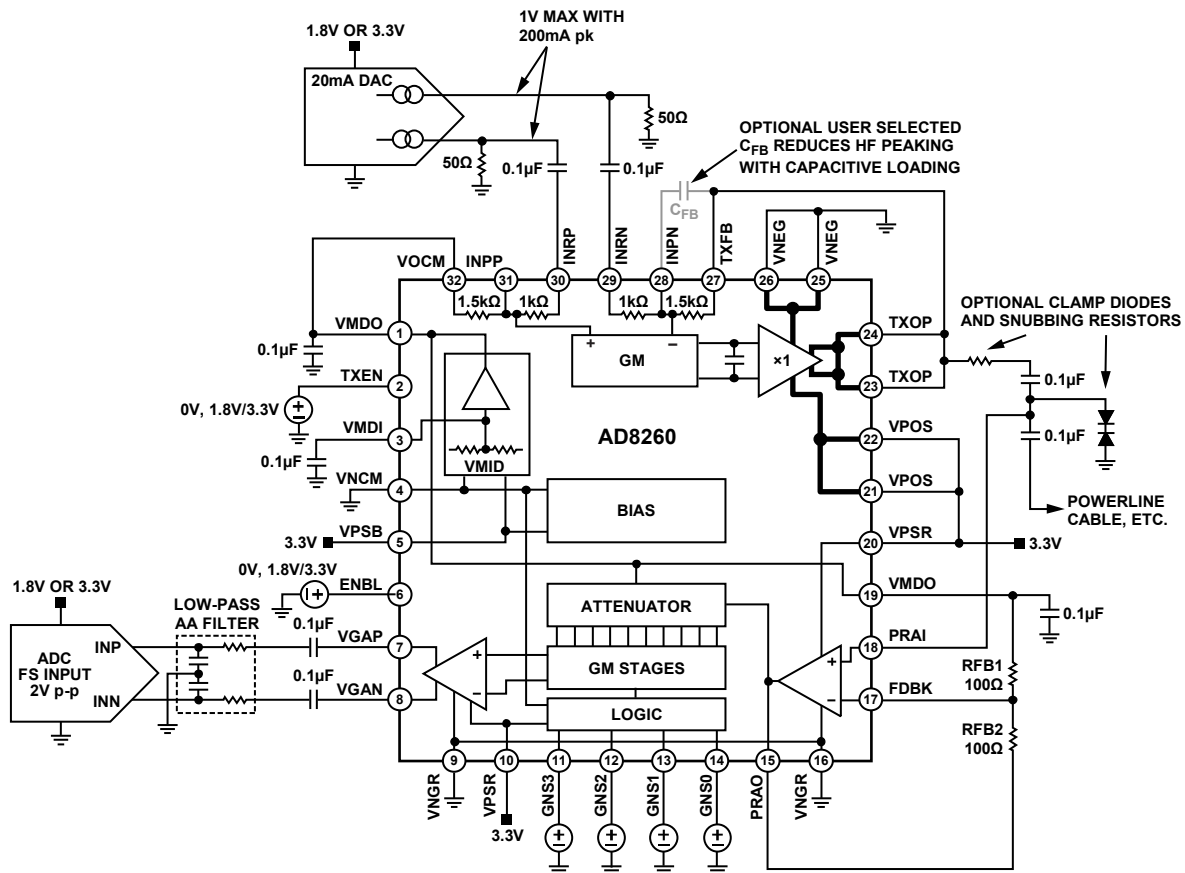

Figure 64. Block Diagram and Basic Application Connections
The AD8260 is a self-contained transceiver intended for analog communications using a power line as the media. Operating on supplies as low as 3.3 V, it includes a high current driver usable as a transmitter and a low noise digitally programmable variable gain amplifier (DGA), usable as a receiver (see Figure 64). An uncommitted current-feedback high frequency op amp acts as a preamplifier and interface to the DGA and is user configured for gains greater than 6 dB. Combined, the VGA and preamplifier are usable at high signal levels from dc to 100 MHz, with a small-signal  $-3$  dB bandwidth of 230 MHz. To implement a high current-output VGA, the VGA output can be connected to the driver-amplifier differential input.
4-bit parallel interface. Figure 64 shows the circuit block diagram and basic application connections, and illustrates the envisioned external DAC, ADC, and power-line bus interface connections. The diagram shows the connections for single 3.3 V supply operation; if a dual supply is available, the VMID generator can be shut down and Pin VMDI, Pin VMDO, and Pin VOVM need to be grounded. Note that Pin VNCM functions as the negative supply for the bias and VMID cells, plus the logic interfaces, and should always be tied to ground.
For optimal dynamic range, it is important that the inputs and outputs to both the driver amplifier and the preamplifier and the DGA output amplifier be ac-coupled in a single-supply application. In Figure 64, the DAC and ADC are presumed to operate on a 1.8 V or 3.3 V supply with a corresponding limited output and input swing. The DAC outputs are currents that point down and generate a voltage in the  $50\ \Omega$  resistors that are connected to ground. The maximum voltage with a peak DAC output current of 15 mA is 0.75 V; if a DAC with a 20 mA peak current is used, then the maximum voltage is 1 V per side for a differential input signal of 2 V p-p.
The high current driver amplifier can deliver very large output currents suitable for driving complex impedances, such as a power line, a 50  $\Omega$  line, or a coaxial cable. The input of the amplifier is fully differential and intended to be driven by a differential current-output DAC, as shown in Figure 64. The differential input signal is amplified by 1.5 $\times$  and produces a 2.25 V p-p single-ended output signal from a 1.5 V p-p input signal. A DAC with 15 mA maximum output current into a 50  $\Omega$  load provides 1.5 V p-p of input voltage and results in 2.25 V p-p at the output. A DAC whose output is 20 mA produces an output swing of 3 V p-p (neglecting a small gain error when driving the parallel combination of the 50  $\Omega$  load-resistor and the internal 1 k $\Omega$  gain resistor of the AD8260).
During receive, when the high current driver-amplifier is disabled, its gain setting resistors provide a signal path from input to output. To prevent inadvertent DAC signals from being transmitted while receiving via the preamplifier and DGA, the DAC in Figure 64 must have no output signal.
The VMID buffer is a dc bias source that generates the voltage on Pin 1 and Pin 19, VMDO. Node VMDO cannot accommodate large dynamic currents and requires excellent ac decoupling to ground. A high quality 0.1μF capacitor located as close as possible to Pin 1 and Pin 19 (see Figure 64) is normally sufficient to decouple the high values of current from Node VMDO.
Referring to Figure 64, the signal path consists of a 30 dB programmable attenuator followed by a fixed gain amplifier of 18 dB for a total DGA gain range of  $-12 \text{ dB}$  to  $+18 \text{ dB}$ . With the preamplifier configured for a gain of 6 dB, the composite gain range is  $-6 \text{ dB}$  to  $+24 \text{ dB}$  from single-ended preamplifier input to differential DGA output.
- Use the internal VMID buffer as shown in Figure 64.